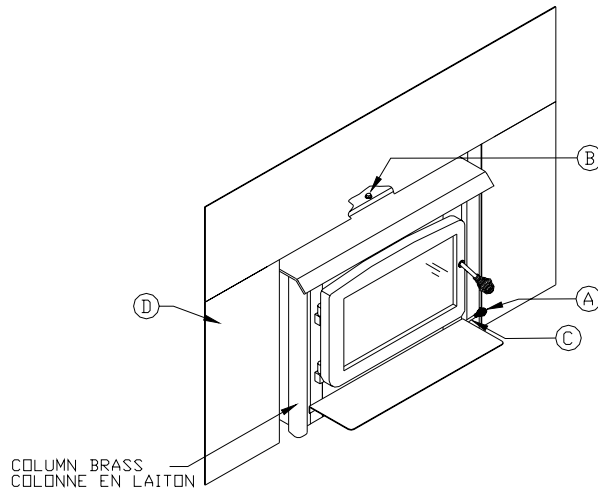

Figure 11
10. Push the air control (A) in, all the way. Slide the adjustable faceplate sleeve back into its original location until the faceplate fits tightly against the fireplace facing. See Figure 11. One 7/16" (11mm) open end wrench should be used to turn the nut (B), located above the cooktop in the center, up so that it securely fastens the adjustable faceplate sleeve to the top air jacket. Take the air control slider spring handle (C) from the firebox and turn it onto the 1/4" diameter (6mm) air control rod (A).